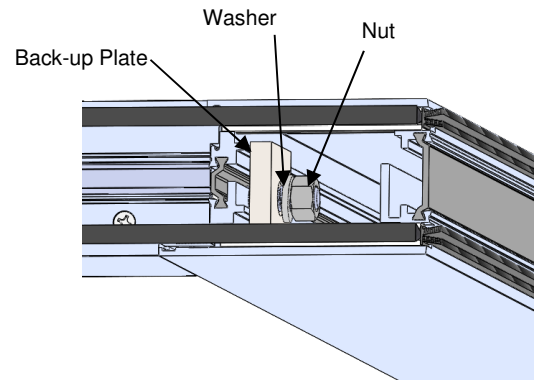

Figure 12:
- Slide the back-up plate over the threaded rod. Followed by the washer and nut (Figure 12).